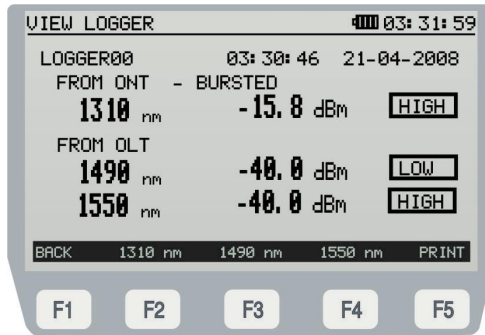

Figure 14.- Logger General Screen.
- VIEW [F3]:** Displays the data stored in the selected logger (Figure 14 and 15).